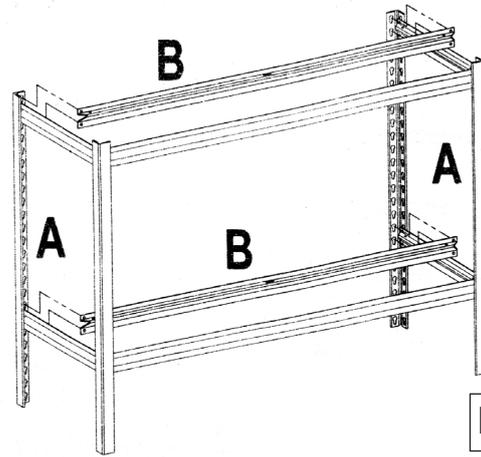

Fig.14
**4.12 See Fig.14.** Join the two end frames together using the four remaining long 'Z' beams as shown above. Ensure that each 'Z' beam is facing upwards. Tap the beams at either end, close to each angle post with a rubber mallet to ensure that the rivets are seated at the bottom of the keyhole slots.